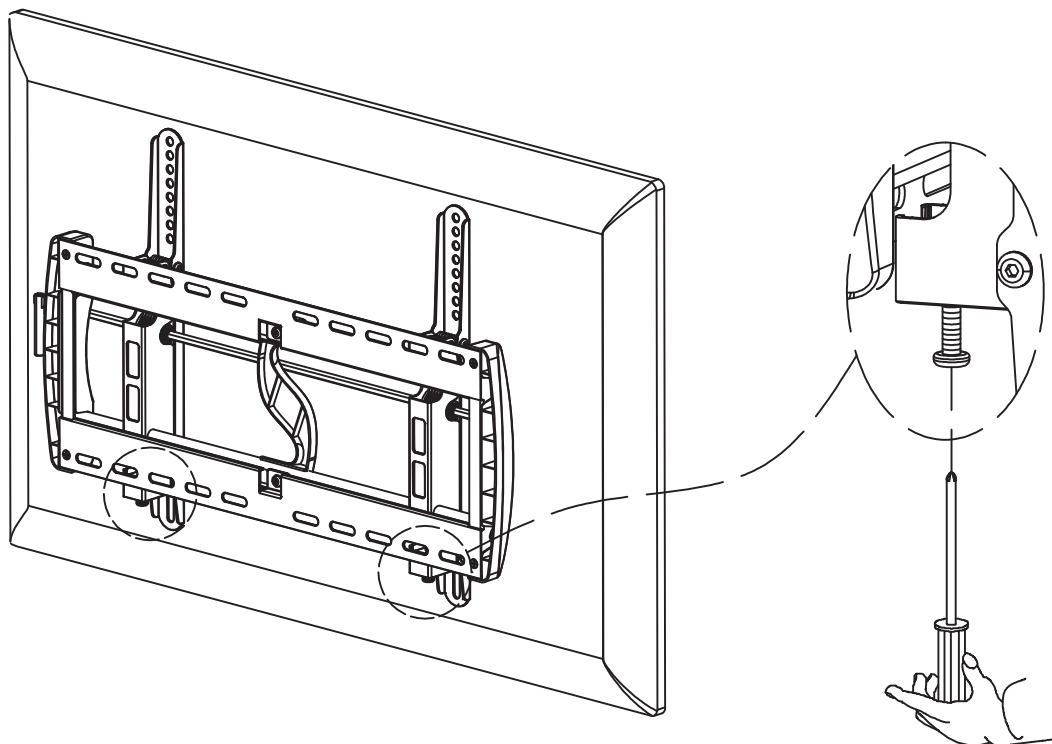

Fig 5a
1. Secure the Television to the **Wall Plate (1)** with the security bolts on the bottom of each **Bracket (2)**. Using a long Phillips screwdriver, tighten the screw at the bottom of each of the two **Brackets (2)** (Fig 5a).
2. Test the TV is secure by pulling carefully outward from the bottom of the TV. If the security bolts are properly tightened, the TV will not pull away from the **Wall Plate (1)**.